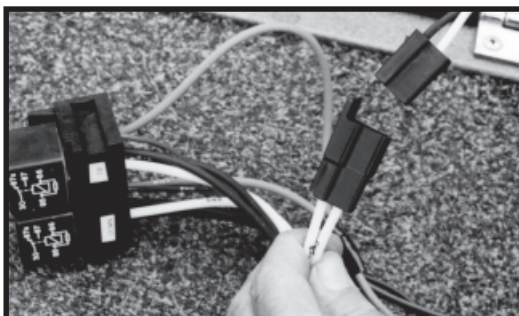

Fig. 16
Step 14: Connect the 2-wire male connector from the hydraulic power unit to the female 2-wire connector at the end of the wire assembly (Fig. 16).